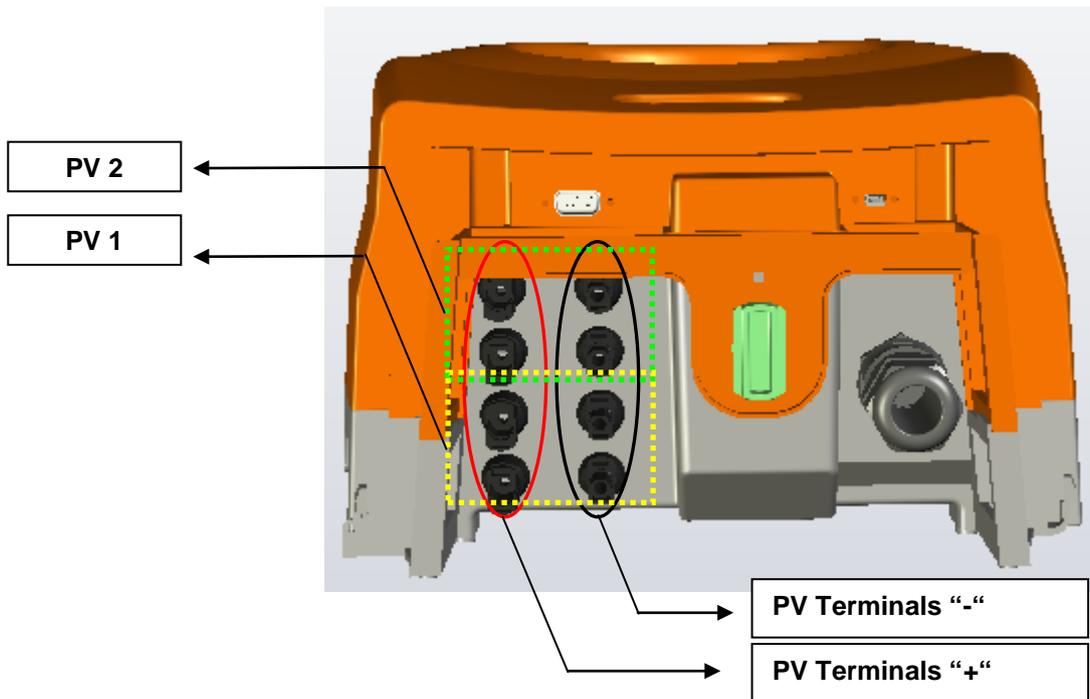

Figure 17: Polarity for string connection to the main PV field and DC-side disconnect switch
- 2) If the DC disconnect switch (optional) is fitted, set it to **OFF** (see Figure 17).